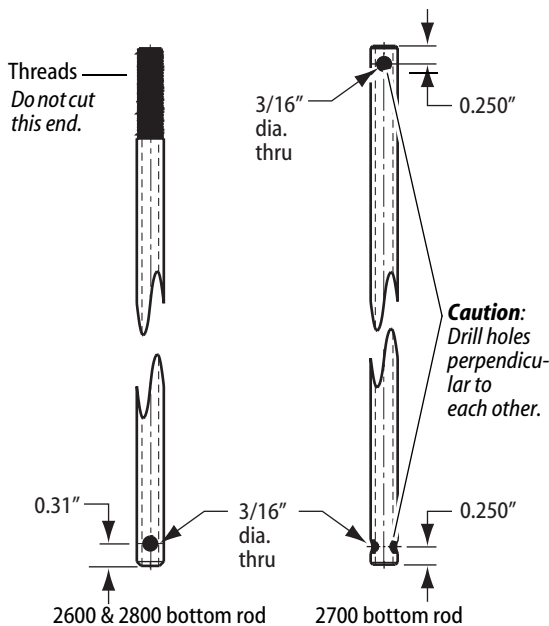

Figure 2 — Drilling the longer bottom rod
- 2 Drill a 0.187 (3/16) inch hole, 0.31 inch from the end as shown in Figure 2.
- 2 Drill a 0.187 (3/16) inch hole, 0.25 inch from the end as shown in Figure 2.
**Caution: Make sure to drill holes perpendicular to each other. See Figure 2.**